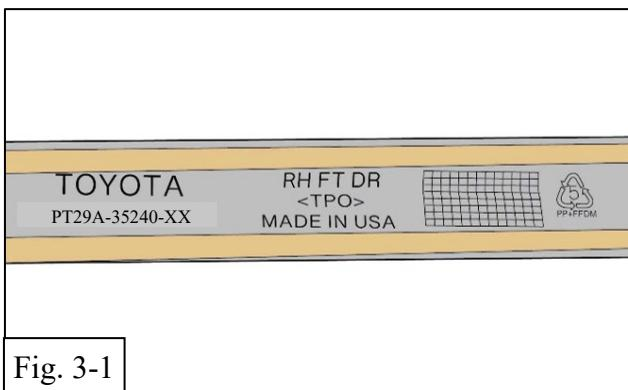
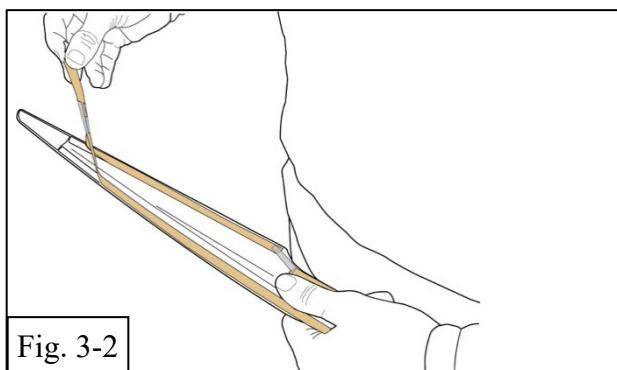

Fig. 3-1
Fig. 3-2
- On the inside of each of the four moldings is identified as to their correct position on the vehicle (Fig. 3-1). Start with the RH front door molding. While carefully holding the molding by its edges, pull the plastic tape at the end of the part to remove the orange release liner from the black acrylic foam tape strips. (Fig. 3-2).